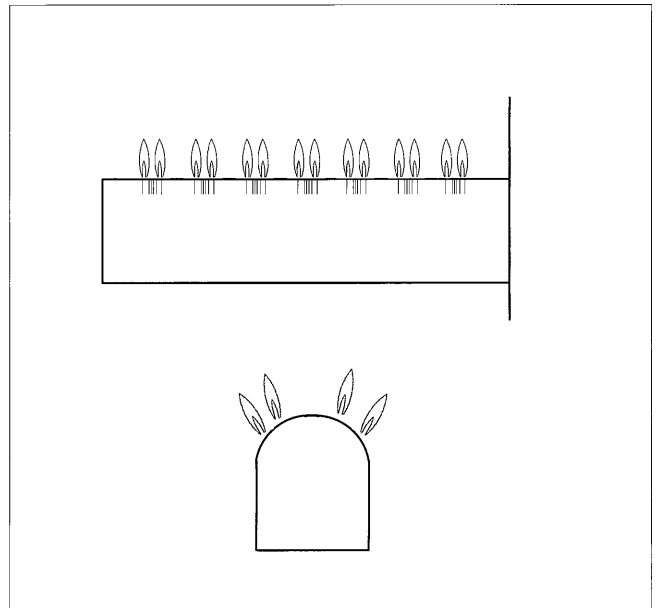

Fig. 11
51. Observe the main burner flame through hole in the burner assembly plate. The flame should have a smooth, firm contour and be mostly blue in color, fig. 11. If the main burner flame is satisfactory, go to step 53. If main burner flame is lazy, yellow, or lifting off the burners, turn the gas control knob clockwise ↻ to "OFF". Shut off the main gas piping shut-off valve. Disconnect all electric power to the appliance and call your service technician or gas supplier.
52. Test the ignition safety shutoff means by turning the gas control knob clockwise ↻ to "OFF". The main burner and the pilot flame will extinguish. Turn the gas control knob counterclockwise ↺ to "PILOT". Wait three (3) minutes. Turn the gas control knob counterclockwise ↺ to "ON". There should be no gas flow to the main burners. Confirm zero (0) pressure on the manifold with manometer. If there is gas flow, immediately turn the gas control knob clockwise ↻ to "OFF". Shut off the main gas piping shutoff valve. Disconnect all electrical power to the appliance and call your service technician or gas supplier. If there is no gas flow, go to step 53.